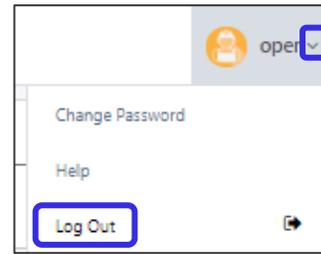

Figure 30: Log out from drop-down menu
2. Click **Log Out** in the drop-down menu (Figure 30).